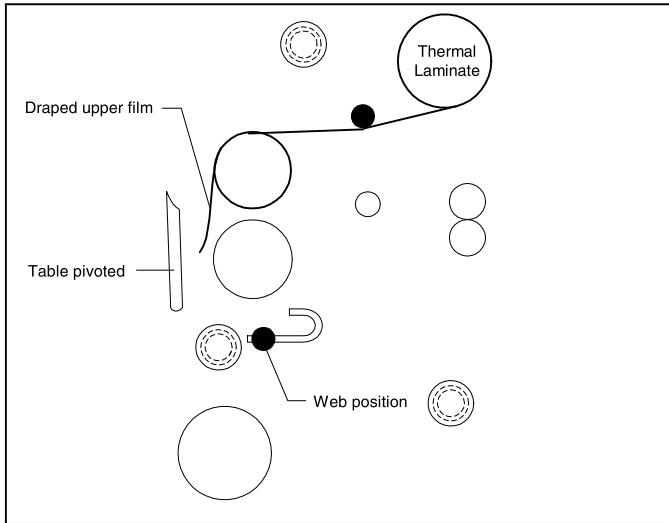

Fig. 25
4. Pull the top roll of film down under the upper idler bar and allow to drape over the top heat roller (Figure 25).